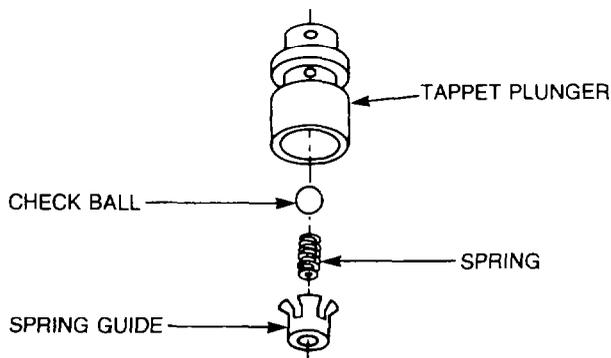

Figure 80 — Tappet Plunger — Disassembly
- p. Remove the spring guide, compression spring and the check ball from the tappet plunger (see Fig. 80).